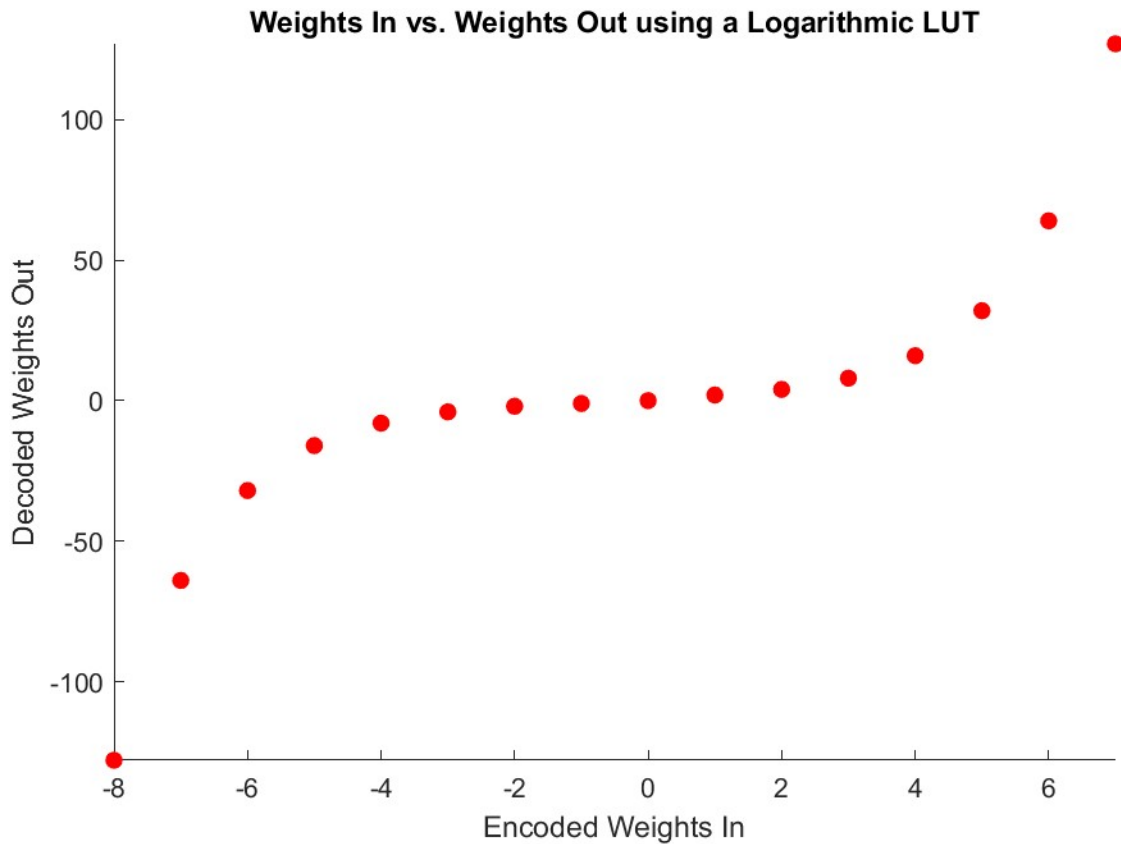

Figure 11. Logarithmic Lookup Table: Weights In vs. Weights Out
- b. Or, using the logarithmic LUT as an example: 0x79 => 0x7F, 0xD1 => 0xE0 (see the "Logarithmic Lookup Table: Weights In vs. Weights Out" figure (Figure 11)).